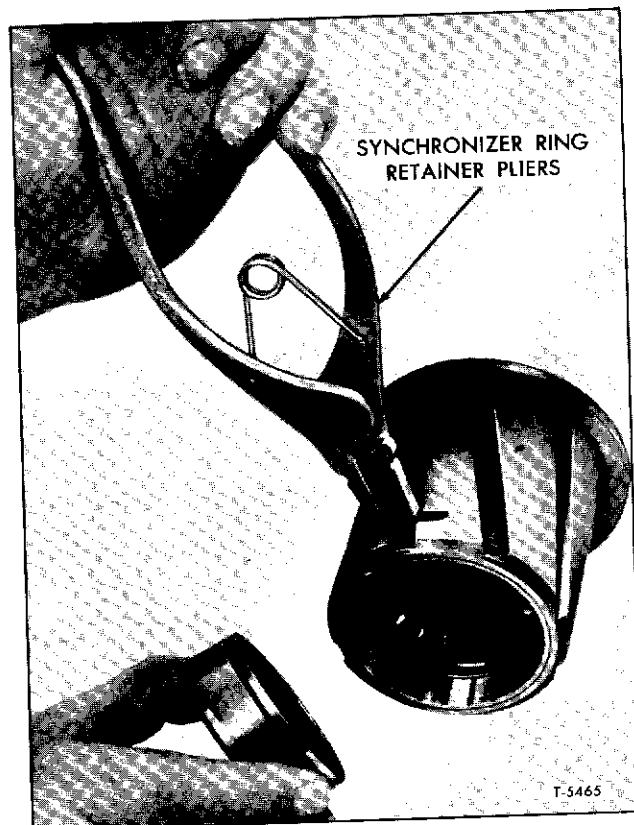

Figure 8—Removing or Installing Synchronizer Rings
3. Using synchronizer ring retainer pliers (J-932), expand the retainer into the counterbore in clutch sleeve. This raises the retainer from the groove in the ring so ring may be easily slipped out (fig. 8).